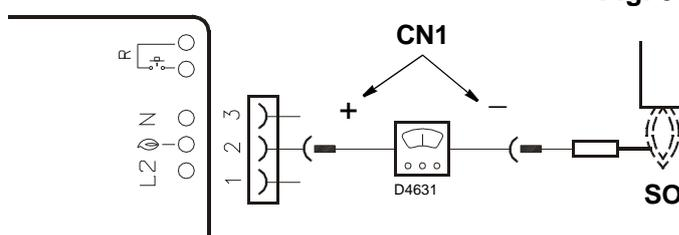

Fig. 9
4.2 COMBUSTION HEAD SETTING, (see Fig. 9)